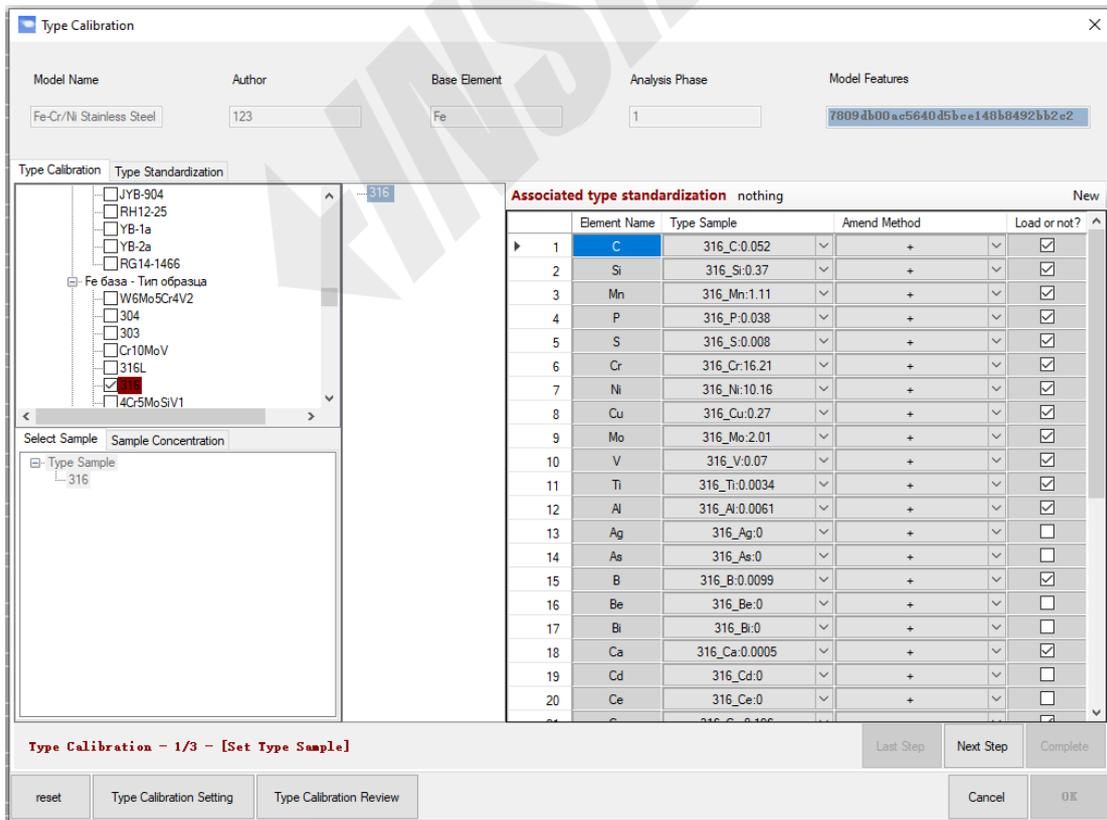

Figure 4-25 Add Type sample
Step 3: Check the required samples and click “Next”, as shown in Figure 4-25: